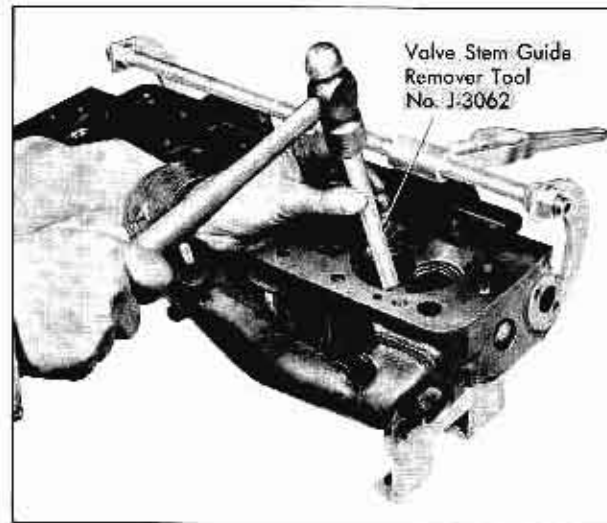

Fig. 10-8 Removing Valve Guides
8. If it is necessary to remove valve guides because of excessive clearance between valve stem and valve guide as measured in Note 5, drive out valve guides from bottom side of cylinder head using Valve Stem Guide Remover, Tool No. J-3062, as shown in Fig. 10-8.